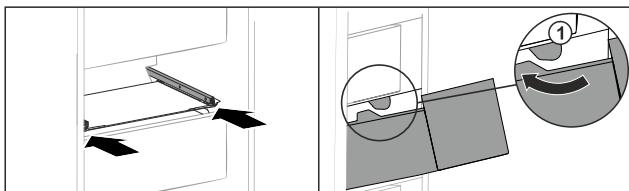

Fig. 156
- Guide drawer around the stoppers Fig. 156 (1).